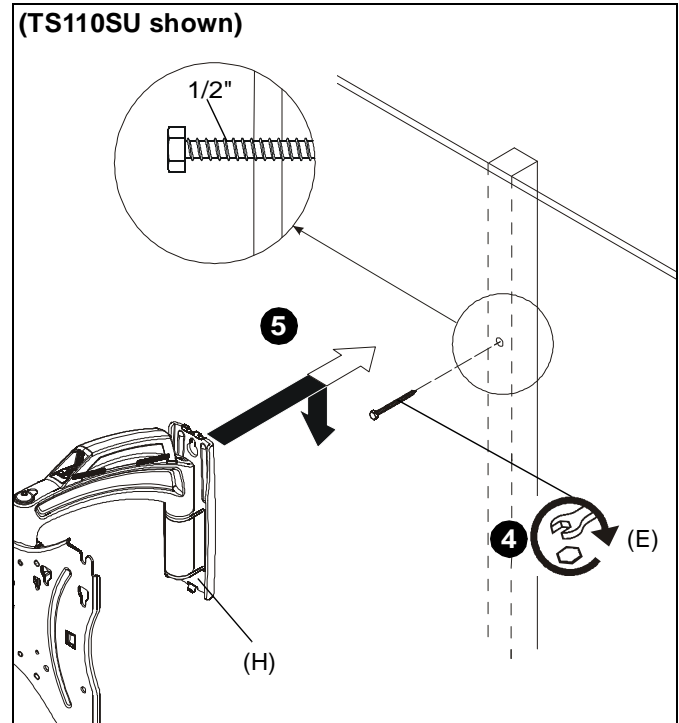

Figure 2
4. Install one 1/4 x 2 1/2" lag bolt (E) into hole, leaving screw hanging out 1/2" from the wall. (See Figure 2)
5. Hang main assembly (H) onto lag bolt (E) by latching key-shaped hole over top of bolt. (See Figure 2)